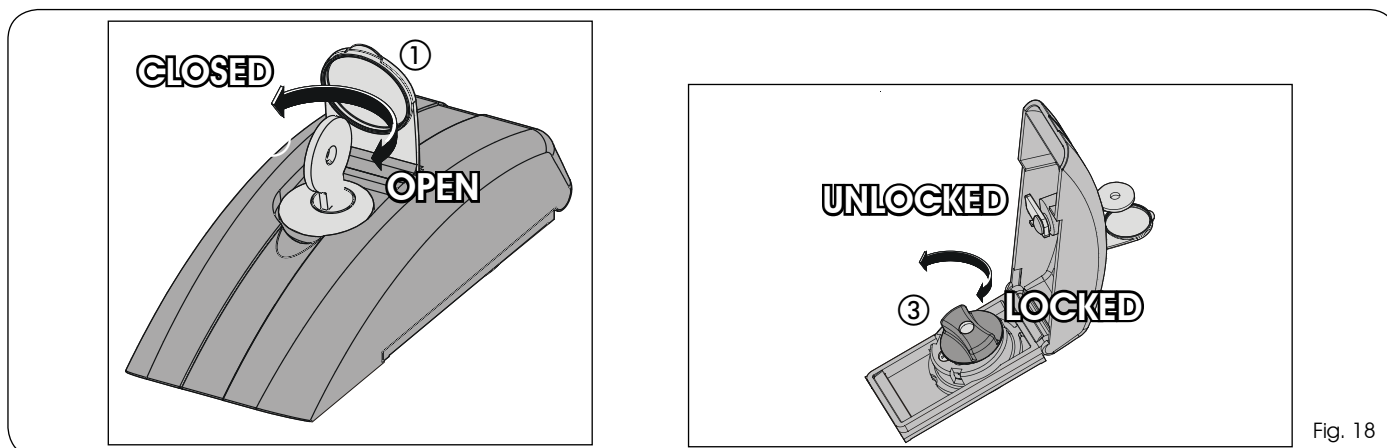

Fig. 18
1) Lift the protection lid (Fig. 18, re. ①) and insert the key in the lock (Fig. 18, ref. ②).
2) Turn the key 90° clockwise to open the cover and lift it.
3) Turn the release knob (Fig. 18, re. ③) anticlockwise until it stops.